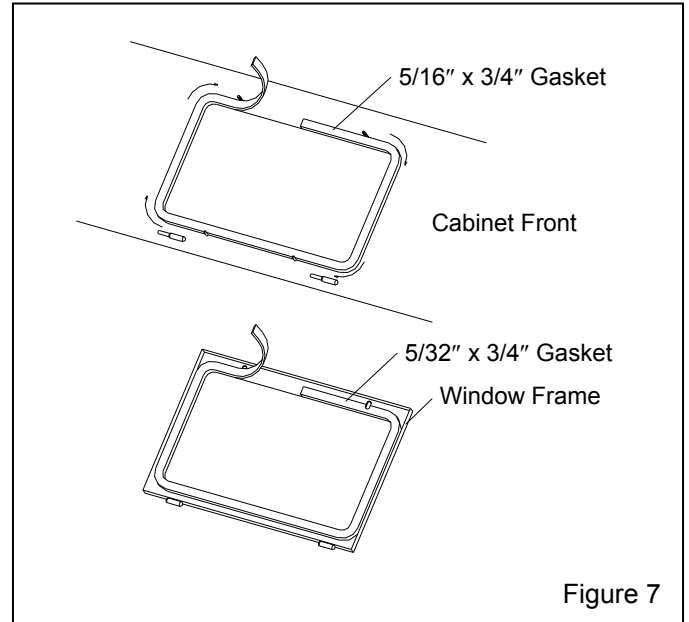

Figure 7
## 7.4 Window Gasket Replacement, Figure 7
**7.4.4** Peel a short section of adhesive backing from the 5/16" thick strip gasket, and adhere the gasket to the center of the top edge of the window opening as shown in Figure 7. Peel additional backing as needed, and work the strip around the radius of each corner, pressing it tightly to bond. Trim the gasket to fit and compress the ends to seal.